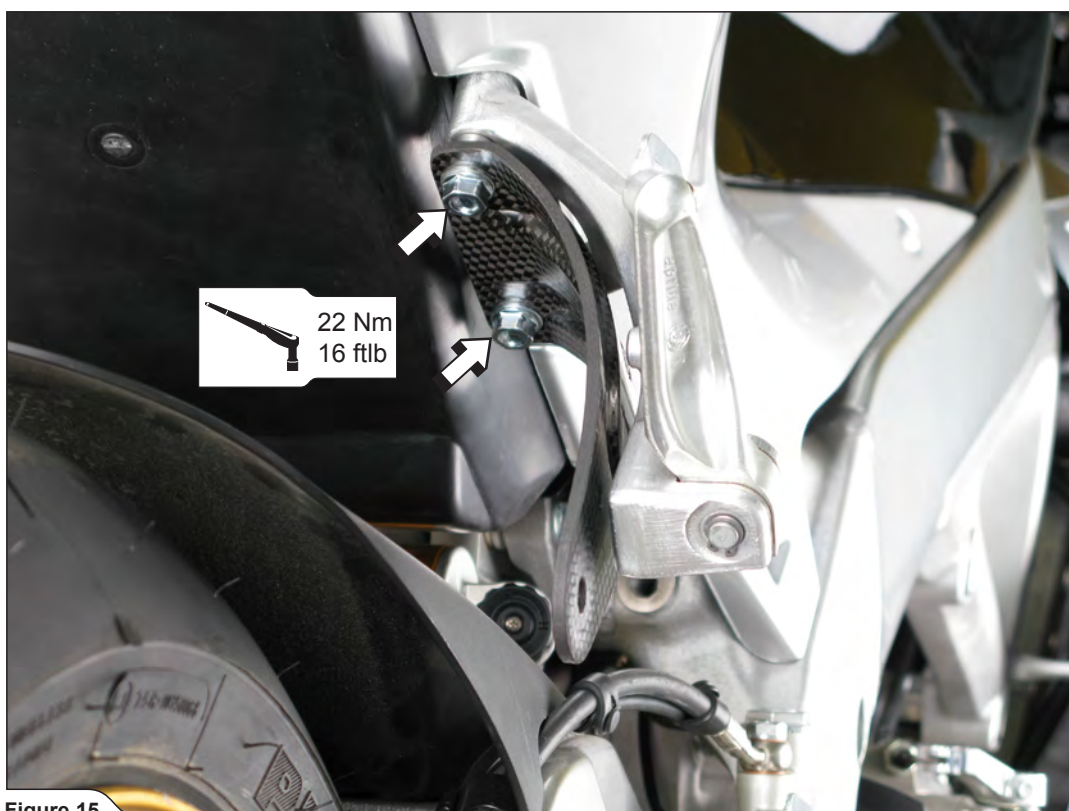

Figure 15
7. Attach assembled passenger's footrest to the subframe, using stock bolts or in case of optional carbon fiber bracket use Akrapovič bolts (**Figure 15**).